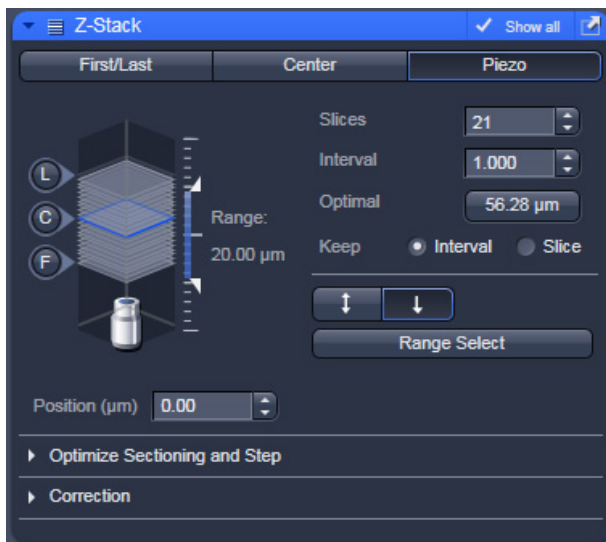

Fig. 78 Z-Stack tool Piezo mode with Z-Stack Navigation displayed
- Define the first and last slice using **Start/End** mode. Activate **Piezo** mode (Fig. 78). The total Range of the Z-Stack is limited to 250 µm when using the Piezo device. Adjusting the value for **Number of Slices** or **Interval** is independent from each other and affects the Range of the stack. The Focus Position is not changed.